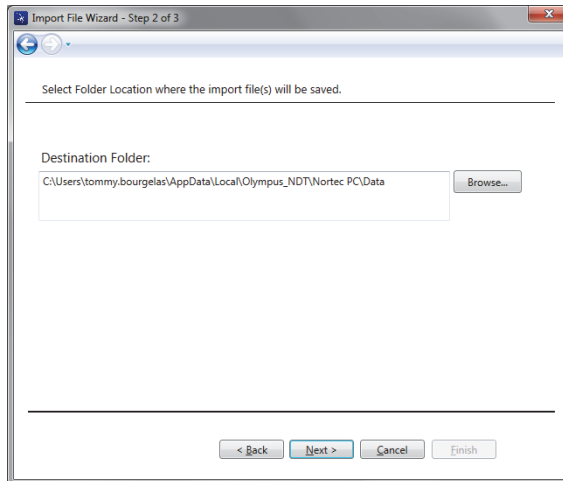

Figure 6-2 The Import File Wizard folder selection
2. Use the **Browse** button to choose the folder location where you want to save the imported files, and then click **Next** (see Figure 6-2 on page 304).